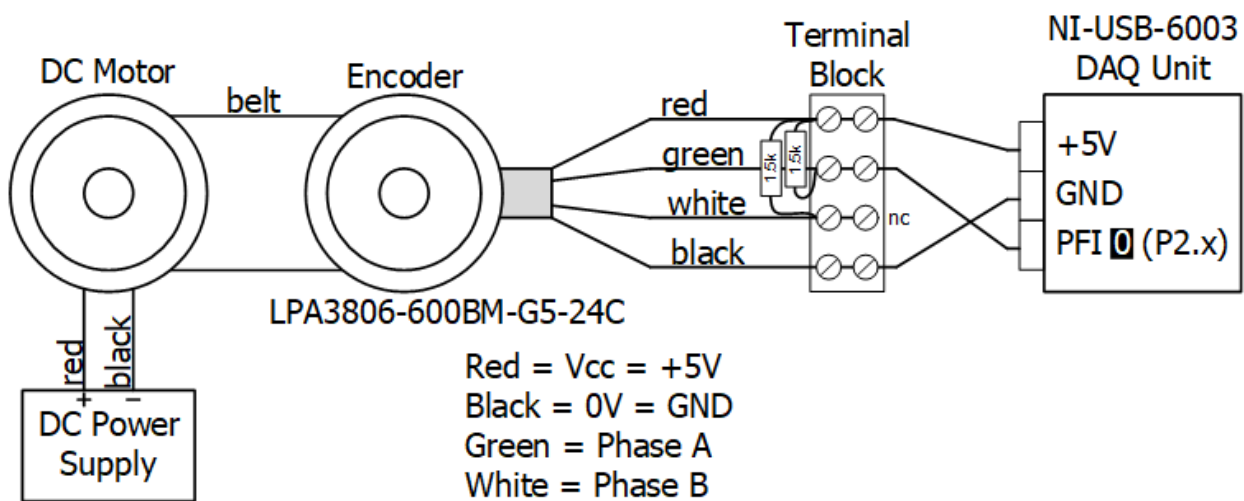

Figure 1. Rotary encoder, DC motor, and DAQ unit setup
1. Connect/verify setup as shown in Figure 1.